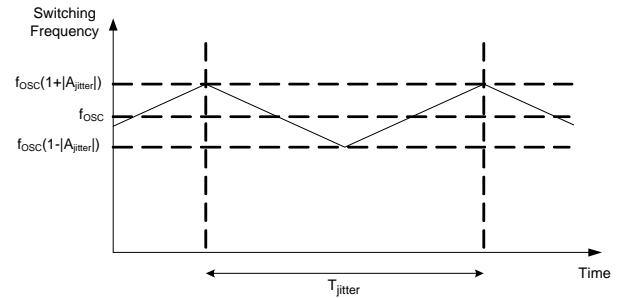

Figure 3: Frequency Jittering
An internal capacitor is charged with a controlled current source, which is fixed when $FB > 2V$, and its voltage is compared with the TIMER voltage. The TIMER voltage is a triangular wave between 2.8V and 3.2V with a charging/discharging current (see Figure 3). The switching frequency can be calculated using Equation (1):